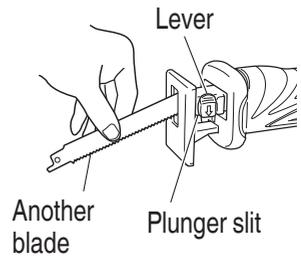

Fig. 13
- (1) If a part of the broken saw blade is sticking out of the small slit of the plunger, pull out the protruding part and take the blade out.
- (2) If the broken saw blade is hidden inside the small slit, hook the broken blade using a tip of another saw blade and take it out (**Fig. 13**).